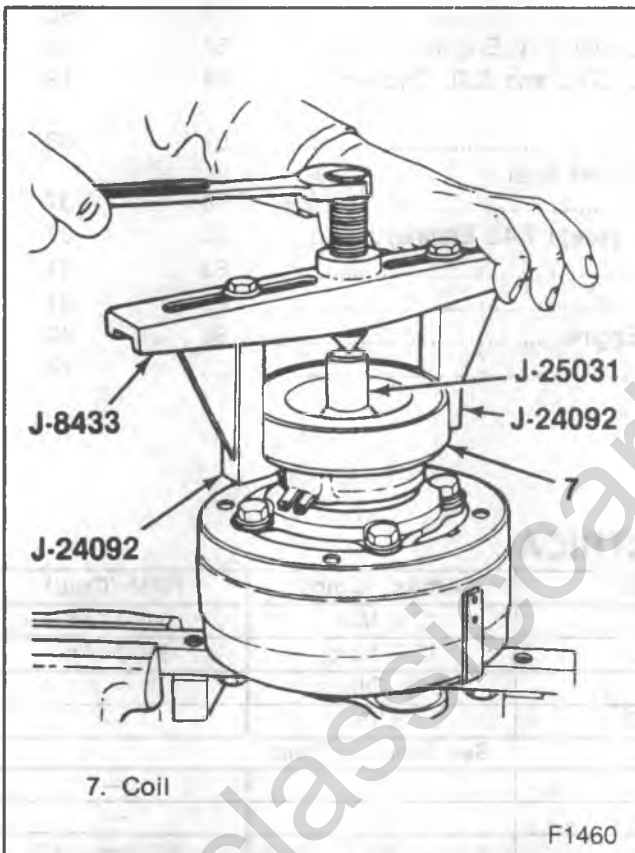

Figure 104—Removing the Multi-Rib Clutch Coil
1. Clutch drive hub (3).
2. Rotor (5)
3. Clutch coil (7) from the front head (15) (figure 104).
- Install J 25031 guide to the shaft (34).